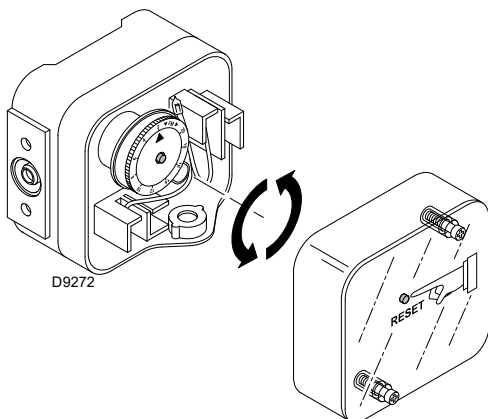

Fig. 32
- Adjust the maximum gas pressure switch (Fig. 32) to the end of the scale.